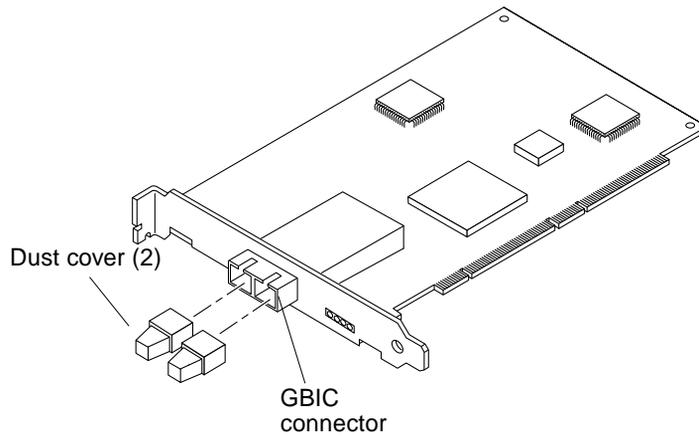

FIGURE 9-21 Removing and Replacing the GigabitEthernet Adapter Dust Covers
7. **Push the two dust covers into the GigabitEthernet adapter card GBIC connectors (FIGURE 9-21).**
2. **Pull the two dust covers out of the GigabitEthernet adapter card GBIC connectors (FIGURE 9-21 on page 9-31).**